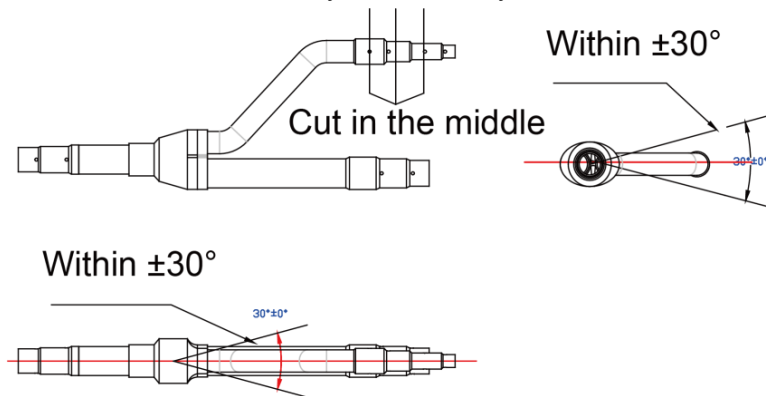

Fig.4.3.11
(2) Y-type branch has several pipe sections with different dimension, which facilitates to match with various copper pipes. Use pipe cutter to cut in the middle of the pipe section that is of proper dimension and remove burrs as well. See Fig.4.3.11.
(3) Y-type branch must be installed vertically or horizontally.